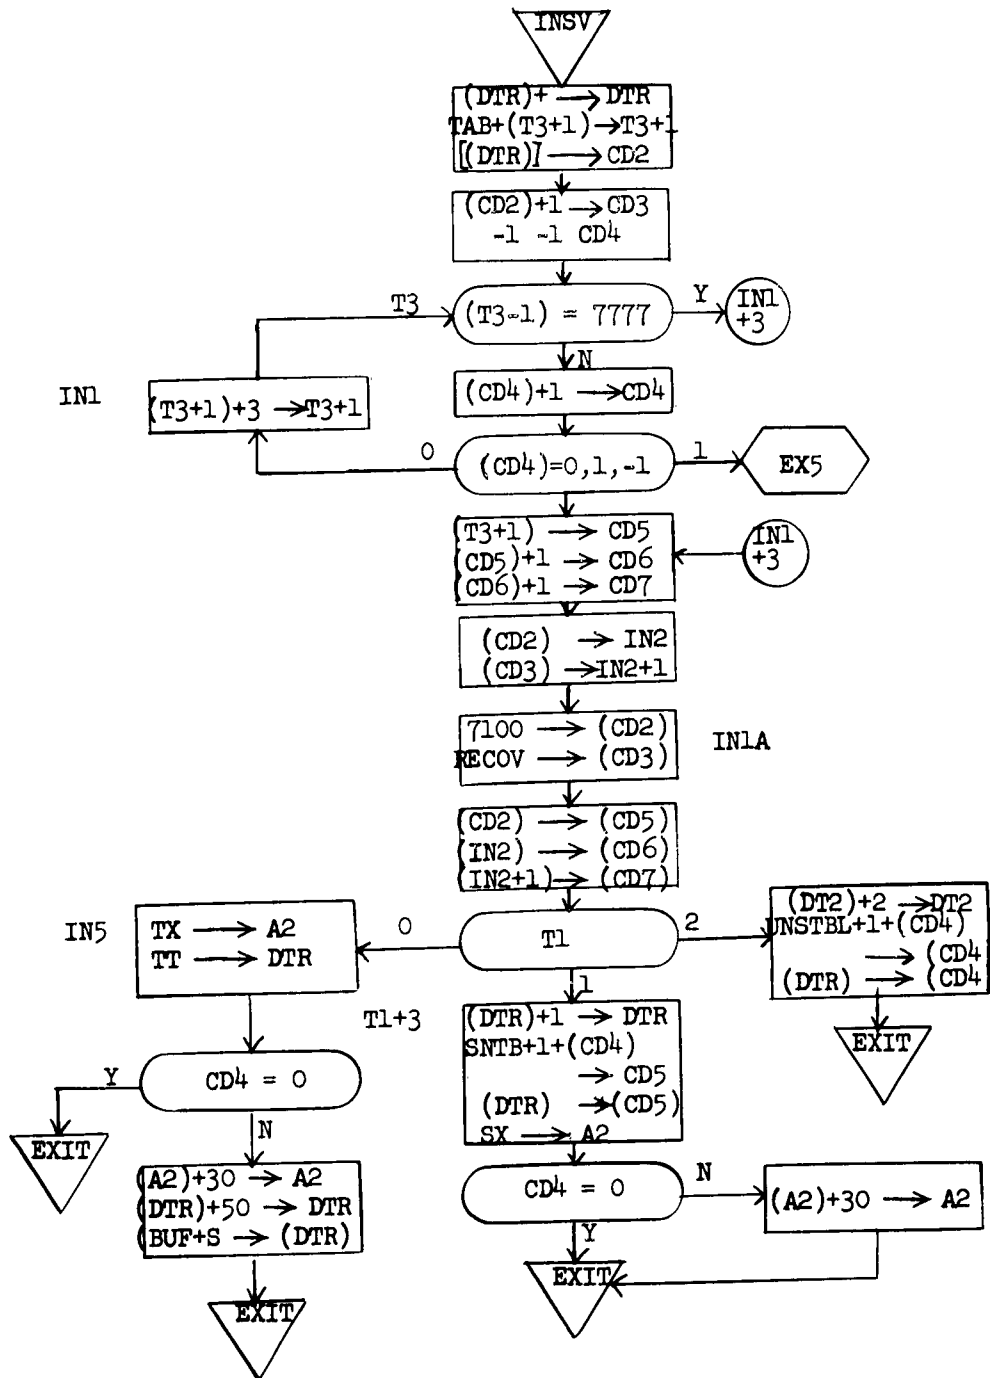

Figure 7.23 INS V
7.3.6 INSV Subroutine (Figure 7.23)